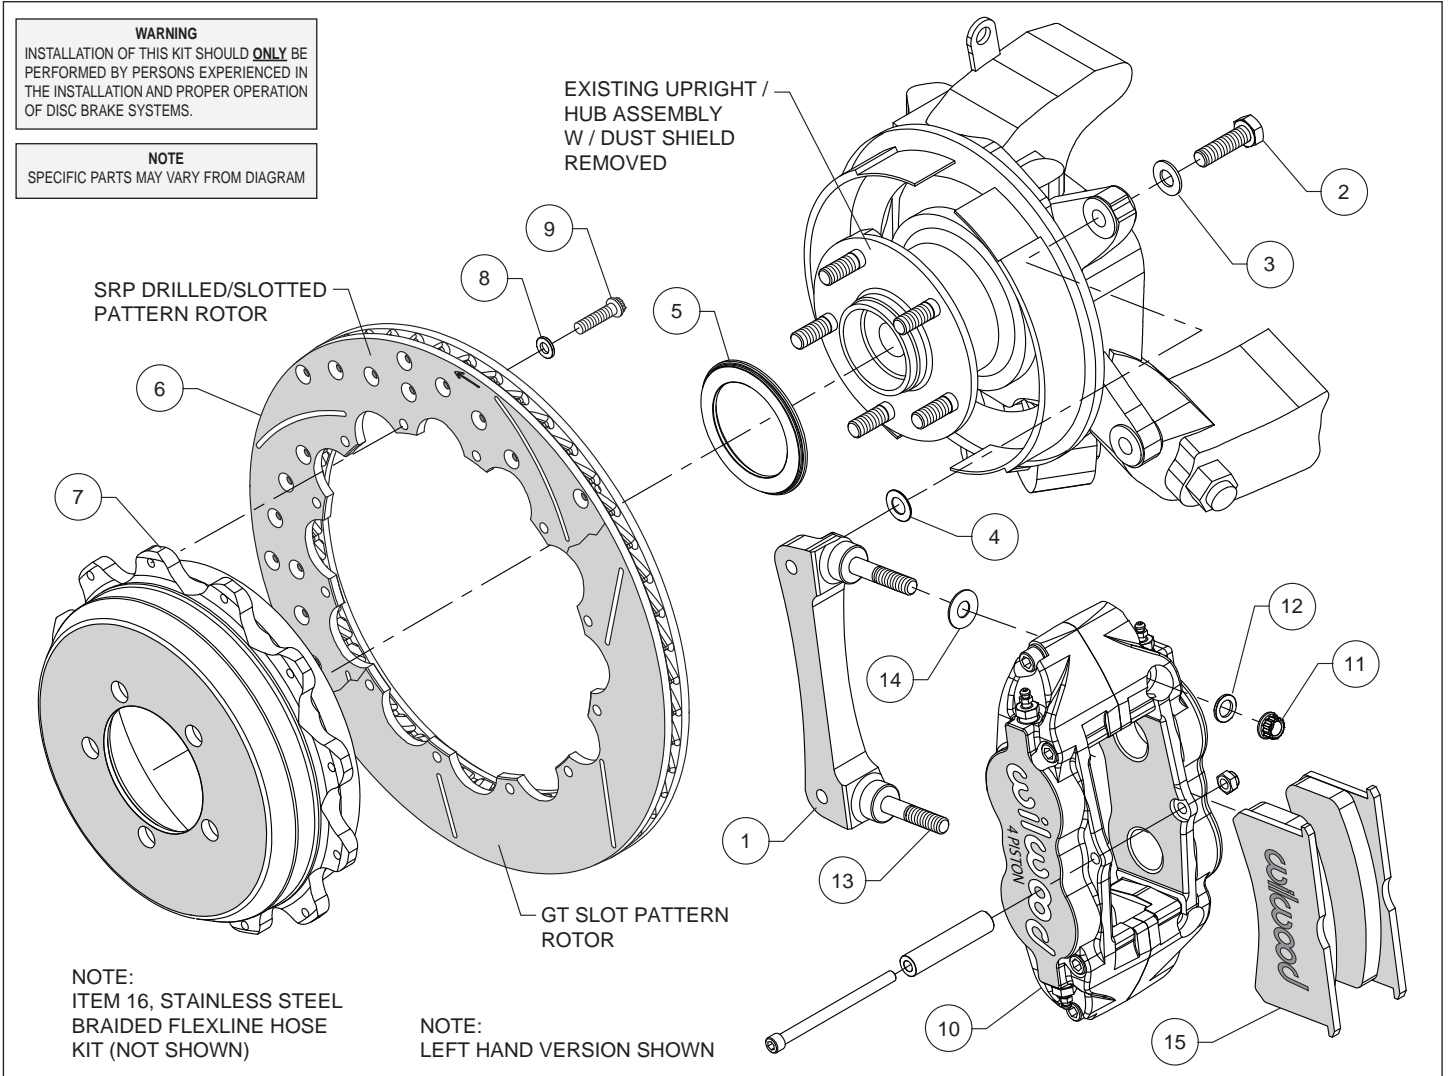
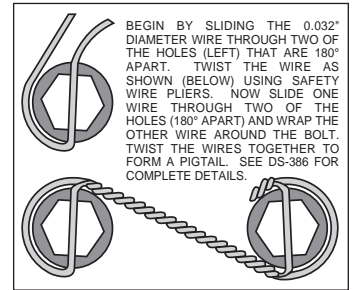

Figure 1. Typical Installation Configuration
Figure 3. Safety Wire Diagram
**Assembly Instructions** (numbers in parenthesis refer to the parts list and Figure 1 on the preceding pages):
- The caliper mount bracket (1) should initially be installed with clean, dry threads on the mounting bolts. Orient the bracket as shown in Figure 1 and Photo 2, and install using washers (3) and bolts (2). Initially place one shim (4) on each bolt between the bracket and upright, Figure 1. Temporarily tighten the mounting bolts. **NOTE:** The bracket must fit squarely against the mount bosses on the upright. Inspect for interference from casting irregularities, machining ridges, burrs, etc. Later, after the caliper alignment has been checked, the mount bolts will be secured using red *Loctite*® 271.
- Orient the rotor (6) and the hat (7) as shown in Figure 1 and Photo 3. Attach rotor to hat using bolts (9) and washers (8). Using an alternating sequence, apply red *Loctite*® 271 to the threads, and torque to 140 in-lbs. For an added measure of security, the bolts may be safety wired using standard 0.032 inch diameter stainless steel safety wire as shown in Figure 3.
- Lubricate the caliper mounting studs (13) with lightweight oil. Initially place one .035" thick shim (14) on each stud as shown in Figure 1 and Photo 5. Mount the caliper (10) onto the bracket (1) using lock nuts (11) and washers (12), Figure 1. Temporarily tighten the lock nuts and view the rotor through the top opening of the caliper. The rotor should be centered in the caliper, Photo 6. If not, adjust by adding or subtracting shims (4) between the bracket and the upright. Once the caliper alignment is correct, remove the bracket mounting bolts one at a time, apply red *Loctite*® 271 to the threads, and torque to 40 ft-lb.